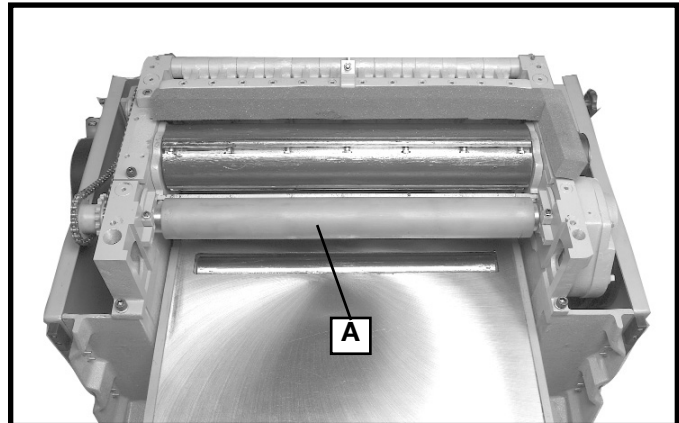

Fig. 34
The outfeed roller (A) Fig. 34, should be .035" below the cutting circle. To check and adjust the outfeed roll, proceed as follows: